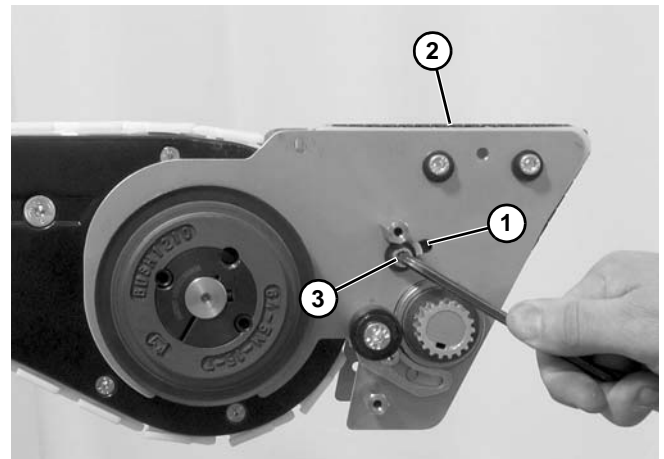

Figure 179
9. Slide idler assembly within slot (**Figure 179, item 1**) only enough to remove excess slack from belt (**Figure 179, item 2**). Tighten socket head screws (**Figure 179, item 3**).